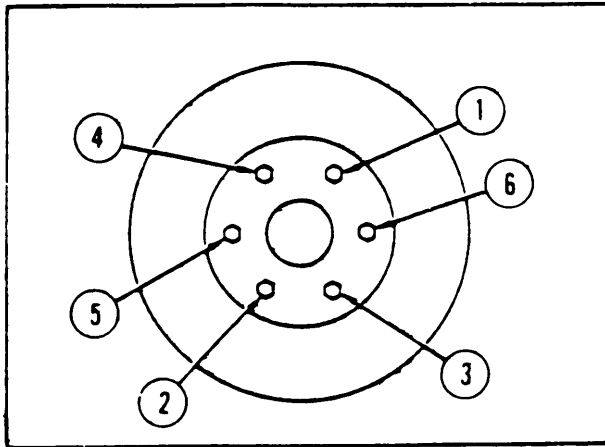

Figure 2-10. Trailer Lug Nut Tightening Sequence (ARMY)
(3) Install lug nuts (6) and tighten finger tight.
(4) Using a standard lug nut wrench and handle available from a towing vehicle, tighten lug nuts (6) in order shown on (figure 2-10), until snug.
(5) Slowly turn both crank handles (2) counterclockwise to raise jack pads (5). This will lower the trailer.
(6) Continue to lower trailer until wheels are securely on the ground or floor.
(7) Using the lug nut wrench and handle, securely tighten lug nuts (6) in order shown on (figure 2-10).
(8) Continue to turn both crank handles (2) in a counterclockwise direction until jack pads (5) both are fully raised.
(9) Remove both crank handles (2) from jack units (4) and replace crank handles on rear of jack support brackets (3). Secure with safety pins (1).
(10) Refer to TM 10-4610-215-10 and rotate jack assemblies to the horizontal position.